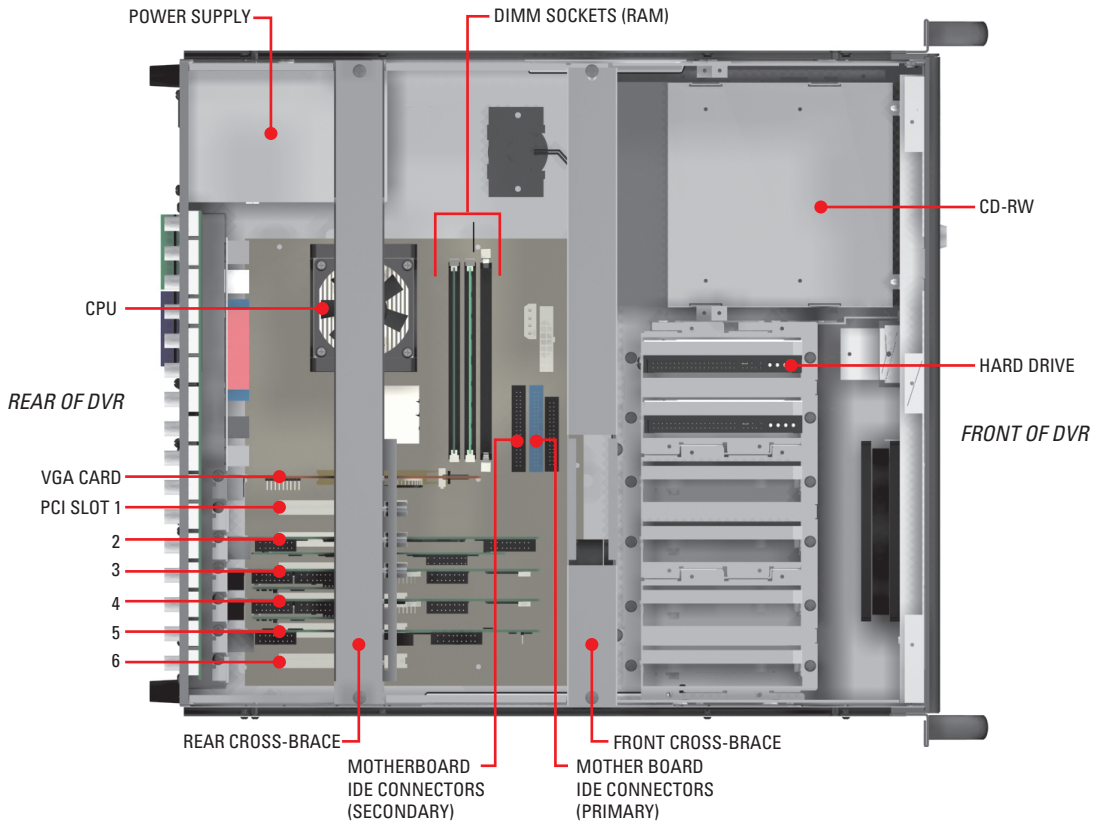

Figure 6. DX8000 Interior
- Carefully remove the chassis cover by sliding it back and up. Set aside the cover. Figure 6 illustrates the interior of the DX8000.
Figure 6 shows the location of your DX8000 Series DVR's major components. Certain cables and components have been omitted from the illustrations in this manual for the purpose of clarity.